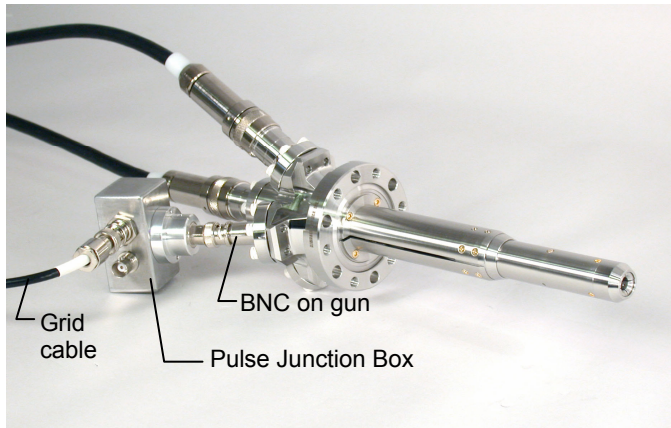
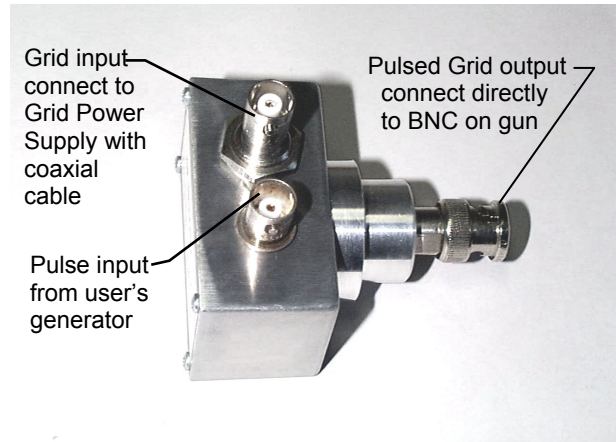

Fig. 4.7-2 A typical alkali metal Ion Gun with Pulse Junction Box attached to Grid BNC
Fig. 4.7-3 Pulse Junction Box, showing connections
3. Connect the Pulse Junction Box as shown in Fig. 4.7-2 and Fig. 4.7-3.